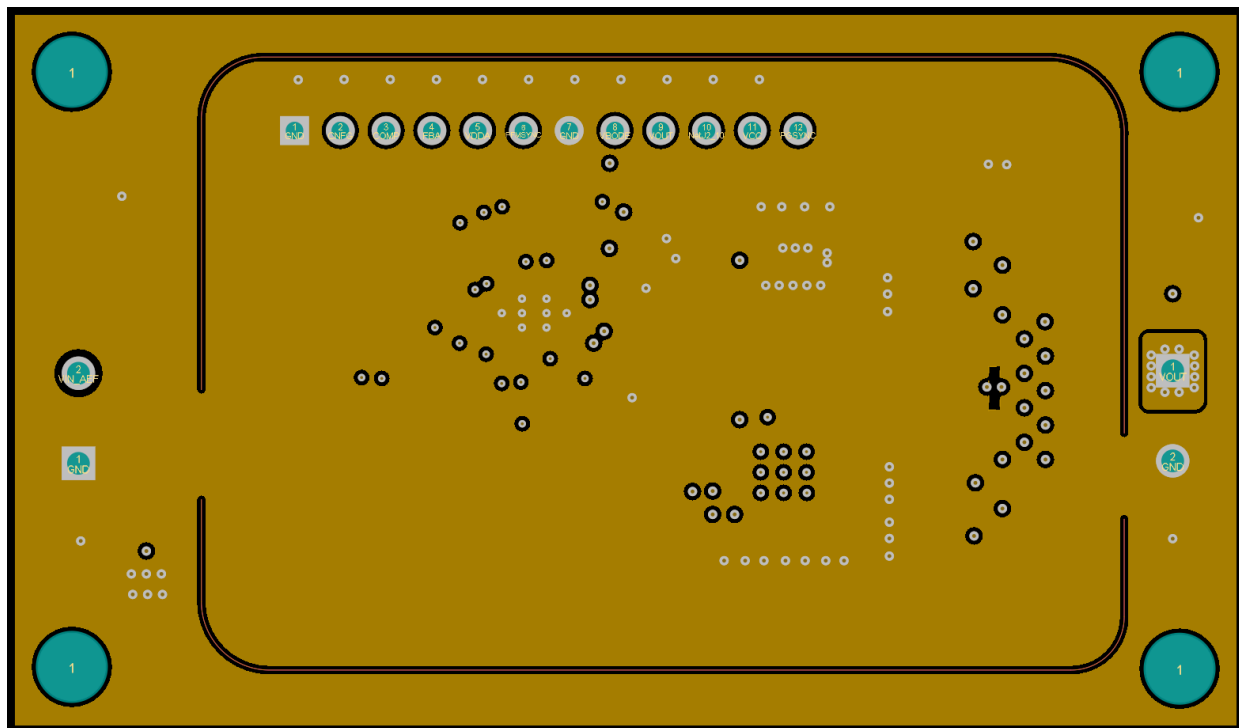

**Figure 9-48. PCB Top Layer – High Density, Single-sided Design**
- Connect AVSS to a quiet GND connection, further from IC if possible. Keep decoupling capacitor  $C_{AEFVDDA}$  close to the AEFVDDA pin and AVSS GND connection. See capacitor C23 in Figure 9-48.
Figure 9-48 shows a single-sided layout of a synchronous buck regulator with discrete power MOSFETs, Q1 and Q2, in SON 5-mm × 6-mm case size. The power stage is surrounded by a GND pad geometry to connect an EMI shield if needed. The design uses layer 2 of the PCB as a power-loop return path directly underneath the top layer to create a low-area switching power loop of approximately 2 mm2. This loop area, and hence parasitic inductance, must be as small as possible to minimize EMI as well as switch-node voltage overshoot and ringing.
- Make the ground connections to the LM5149 controller as shown in Figure 9-48. Create a power ground directly connected to all high-power components and an analog ground plane for sensitive analog components. The analog ground plane for AGND and power ground plane for PGND must be connected at a single point directly under the IC – at the die attach pad (DAP).